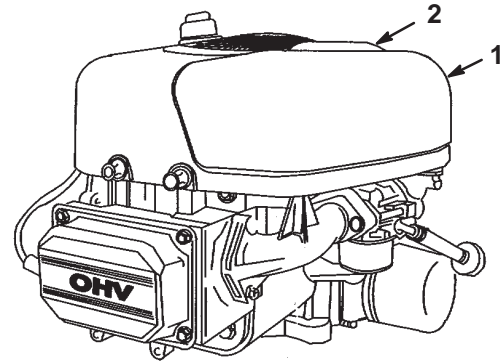

Figure 16
6. Clean around the air cleaner to prevent dirt from getting into the engine and causing damage. Pull up on the air cleaner cover handle and rotate it toward the engine (Fig. 16). Remove the air cleaner cover.